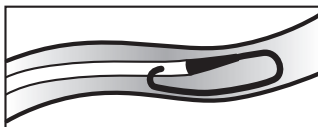

Figure 16
**⚠ Precaution: If resistance is encountered when attempting to remove guidewire after catheter placement, guidewire may be kinked about tip of catheter within vessel (refer to Figure 16).**